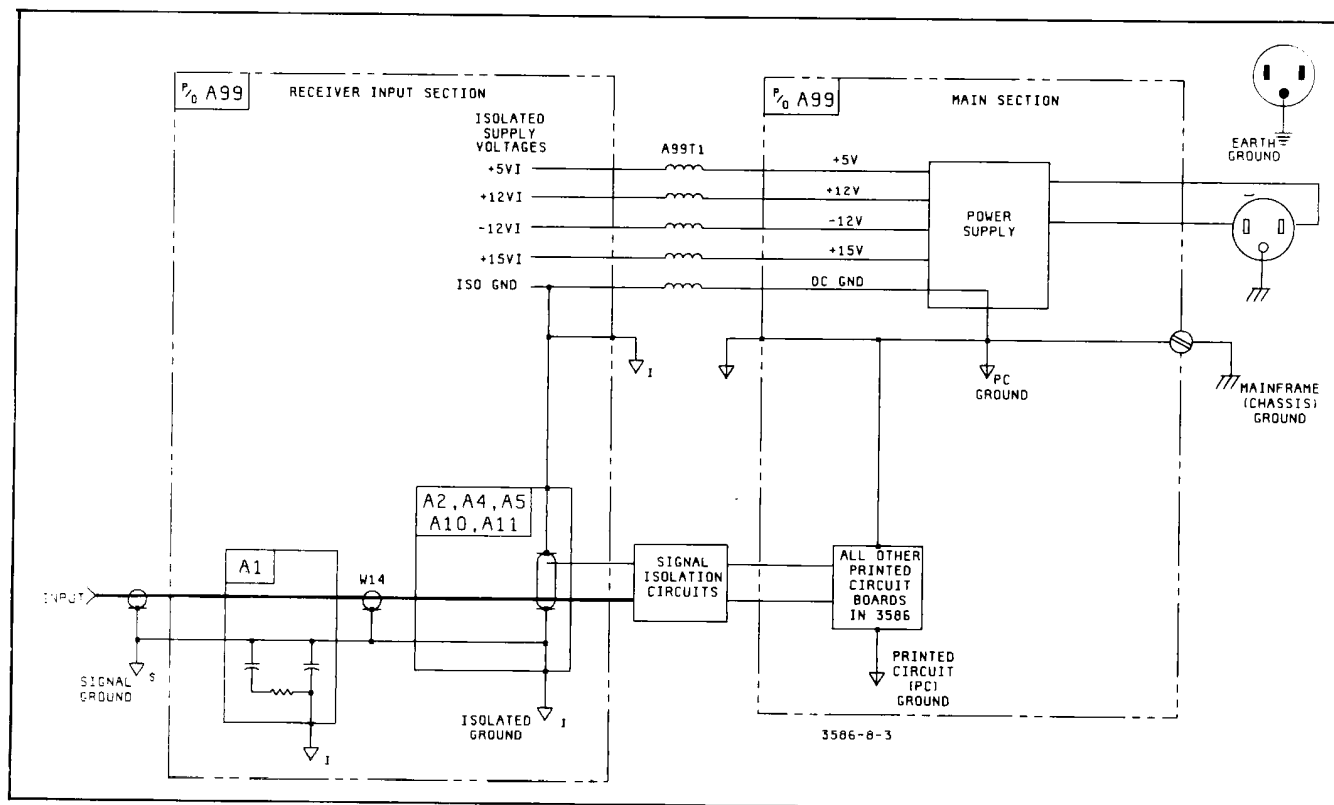

Figure 8-4. Grounding and Signal Isolation.
8-112. The 3586A/B/C has two levels of signal measurement grounds above chassis (main-frame) ground (see Figure 8-4). These are called "Isolated ground" (schematic symbol ∇I) and "Signal ground" (schematic symbol ∇s). Their purpose is to prevent "ground loops" present at low signal frequencies and to isolate the entire receiver input section from internally-generated spurs.
8-113. The receiver input section contains the A1, A2, A4, A5, A10, and A11 boards. The receiver input section common ground (Isolated ground) is separated from the remainder of the instrument circuit boards by isolation transformer A99T1 located on the motherboard (see Figure 8-4). On the A1 board, all grounds are Signal ground except power ground and relay logic ground which are Isolated ground. Signal ground is separated on A1 from Isolated ground by a resistor/capacitor network. Signal ground on A1 is tied directly to Isolated ground on A2 via the shield of connecting coaxial cable W14.
- 8-116. Figure 8-4 functionally illustrates the grounding circuits present in the 3586A/B/C.